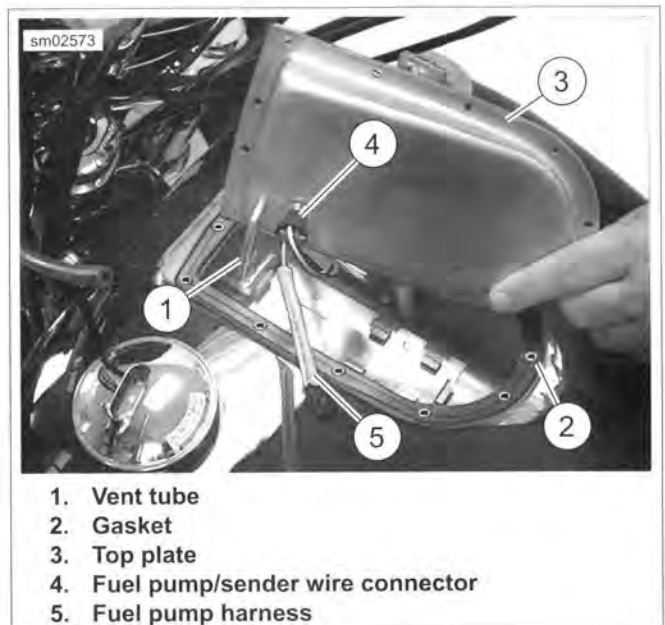

Figure 7-69. Top Plate
- See Figure 7-69. Place **new** gasket (2) under top plate. Align gasket with screw holes.
- Install fuel pump/sender wire connector (4) on top plate (3).